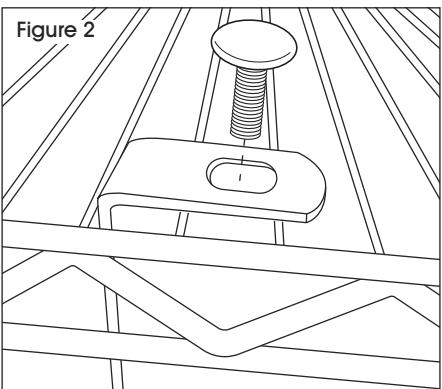

Figure 2
3. Insert screw through the square hole in the top of the L-bracket. (See Figure 2)